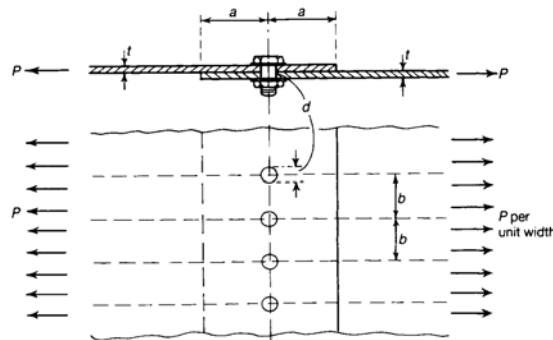

Figure 3.1. Single-bolted lap joint under tensile load.
One of the simplest types of joint between two plates of material is a bolted or riveted lap joint, Figure 3.1.
We shall discuss the forms of failure of the joint assuming it is bolted, but the analysis can be extended in principle to the case of a riveted connection. Consider a joint between two wide plates, Figure 3.1; suppose the plates are each of thickness t , and that they are connected together with a single line of bolts, giving a total overlap of breadth $2a$. Suppose also that the bolts are each of diameter d , and that their centres are a distance b apart along the line of bolts; the line of bolts is a distance a from the edge of each plate. It is assumed that a bolt fills a hole, so that the holes in the plates are also of diameter d . We consider all possible simple modes of failure when each plate carries a tensile load of P per unit width of plate:
We have assumed, in discussing the modes of failure that all load applied to the two plates of Figure 3.1 is transmitted in shear through the bolts or rivets. This is so only if there is a negligible frictional force between the two plates. If hot-driven rivets are used, appreciable frictional forces are set up on cooling;
After (1)_____ the connection of Figure 3.1, suppose we find that in the (2)_____ mode of failure the carrying capacity of the joint is P_0 . If the two plates were continuous through the connection, that is, if there were no overlap or bolts, the strength of the plates in tension would be